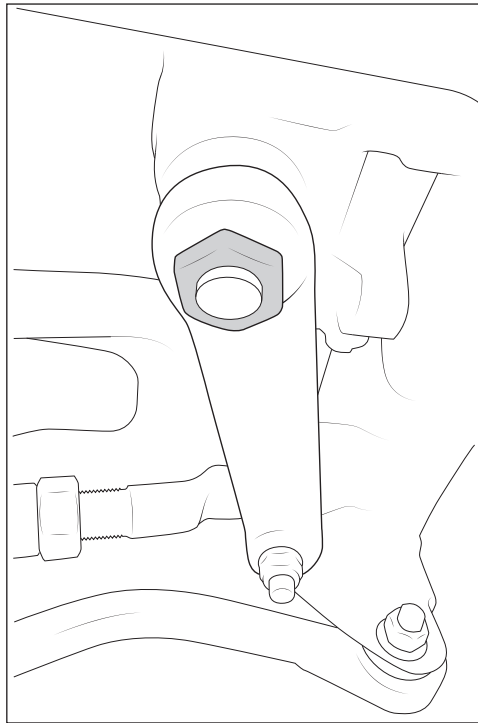

Figure 3
4. Remove the large nut on splined shaft so the pitman arm can be removed (fig. 3).